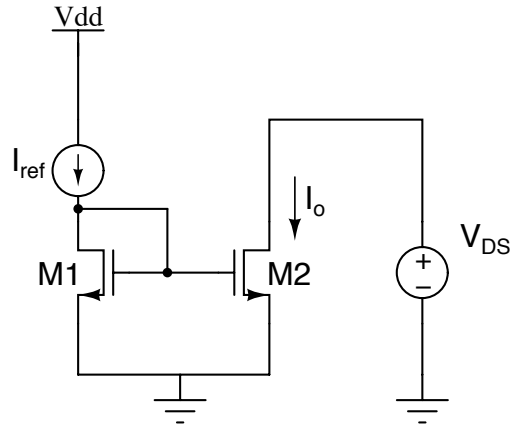
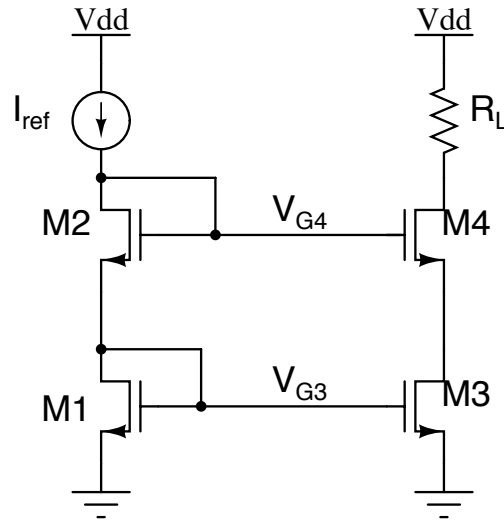
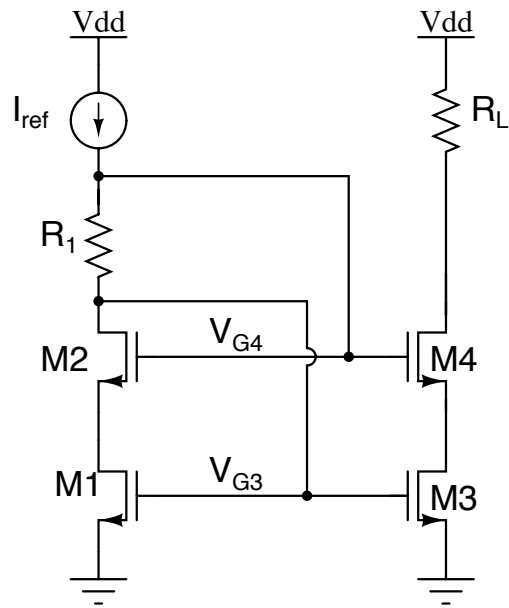

Figure 5: Basic Current Mirror Configuration
Figure 6: Cascode Current Mirror Configuration
Figure 7: Self Biased Current Mirror Configuration 1
- Consider the basic current mirror configuration shown in Fig5. For a fixed  $V_{DS}$  voltage, calculate the actual current at the drain of M2 by considering  $g_{ds}$  of M2. What is the error of mirrored current ( $\frac{\Delta I}{I} = \frac{I_o - I_{ref}}{I_{ref}} * 100$ )? This is the reason why high output impedance ( $\frac{1}{g_{ds}}$ ) is preferred.
- Calculate the output impedance of the cascode current mirror configuration shown in Fig6 in terms of small signal parameters. According to your calculations, size the transistors properly to get 1%, 10% accuracy from the cascode current mirror for  $V_{GS} - V_{th} = 200 \text{ mV}$ ,  $I_{ref} = 1 \text{ mA}$  and  $R_L = 500\Omega$ .
- Plot the error of mirrored current vs  $V_{DS}$  for the current mirrors in Fig5 by sweeping  $V_{DS}$ , in Fig6 by sweeping the drain voltage of M4 and observe when the error is largest. The compliance is the smallest voltage at the output of the current source. Calculate the compliance of the realized current source.
- What is the minimum voltage required at the gate of M4 to have all devices in saturation? Compare it against the voltage used in Fig6. Fig 7 is one of the ways to realize this voltage at the gate of M4. What should be the voltage drop on  $R_1$  and calculate the required  $R_1$  value. Size the transistors properly to get 1% accuracy from the cascode current mirror for  $V_{GS} - V_{th} = 200 \text{ mV}$ ,  $I_{ref} = 1 \text{ mA}$  and  $R_L = 500\Omega$ . Indicate the regions of operation of the transistors in Fig7.